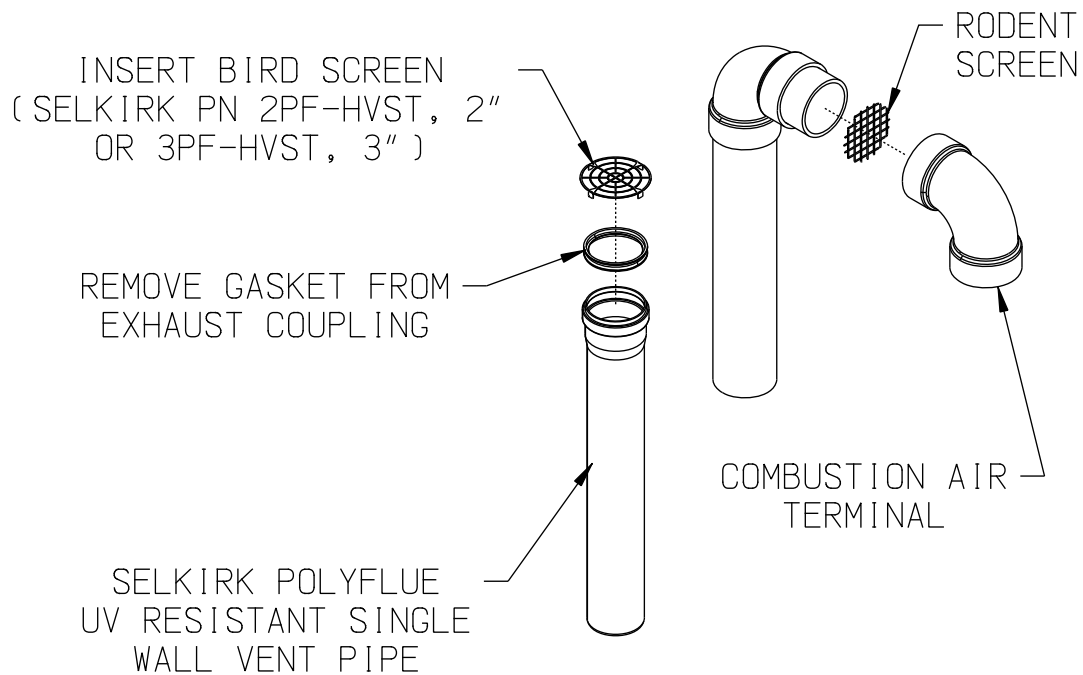

FIGURE 7.43: INSTALLATION OF SELKIRK POLYFLUE UV RESISTANT SINGLE WALL VERTICAL TERMINAL
- a. See Figure 7.43 for the proper orientation of twin pipe vertical terminals.
- c. A 180° bend (or two 90° elbows) are installed on the top of the air intake pipe. If two 90° elbows are used, the rodent screen provided can be installed between them (Figure 7.43). If a 180° bend is used, install the rodent screen in the open side of the bend, using a ring made of PVC pipe. If desired, the termination fittings can be attached to the end of the intake pipes with field supplied stainless steel screws so that they can be later removed for cleaning and inspection. If this is done, drill a clearance hole in these fittings and a tap hole in the end of the intake pipes to accept these screws.